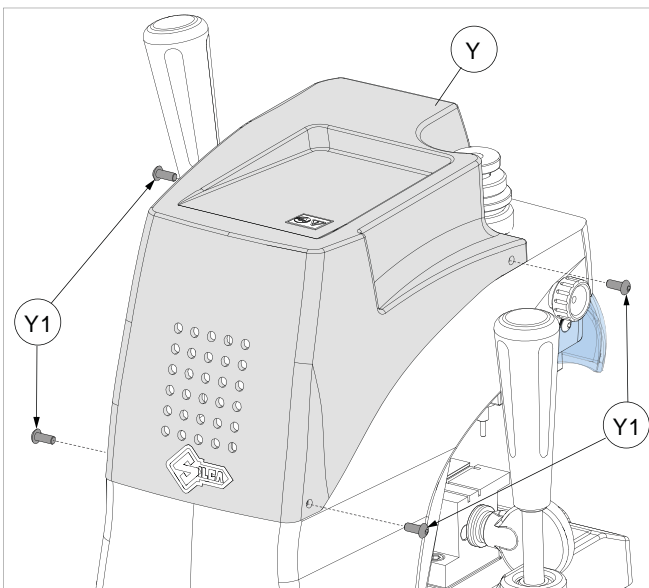

Fig. 36
- 2) Loosen the four screws (Y1) and remove the upper casing (Y) (Fig. 36).
- 5) Replace the upper casing (Y) and secure with the four screws (Y1).
- 1) Turn off the master switch (P) and unplug the machine.